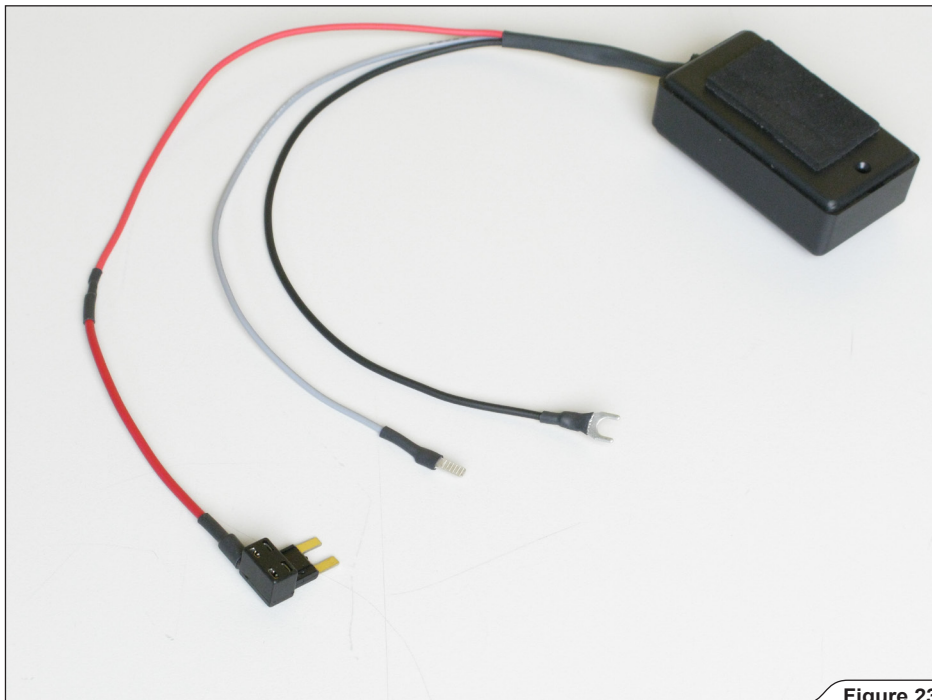

Figure 23
1. Transmitter with installation fittings: red wire-fuse tab, grey wire-connector, black wire-ground (Figure 23).